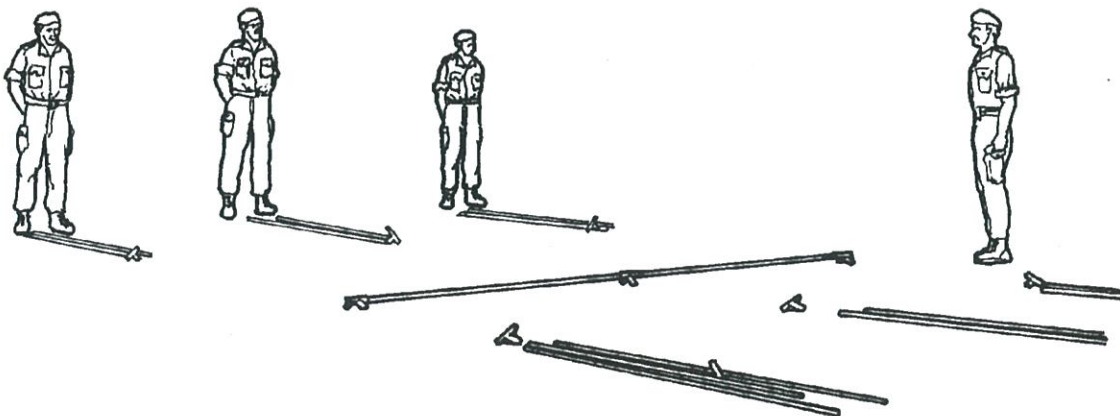

Fig 5-9 — Assembly of Ridge Line
- c. Starting from one end fit the support sockets to the support tubes. This completes the ridgeline (Fig 5-9).